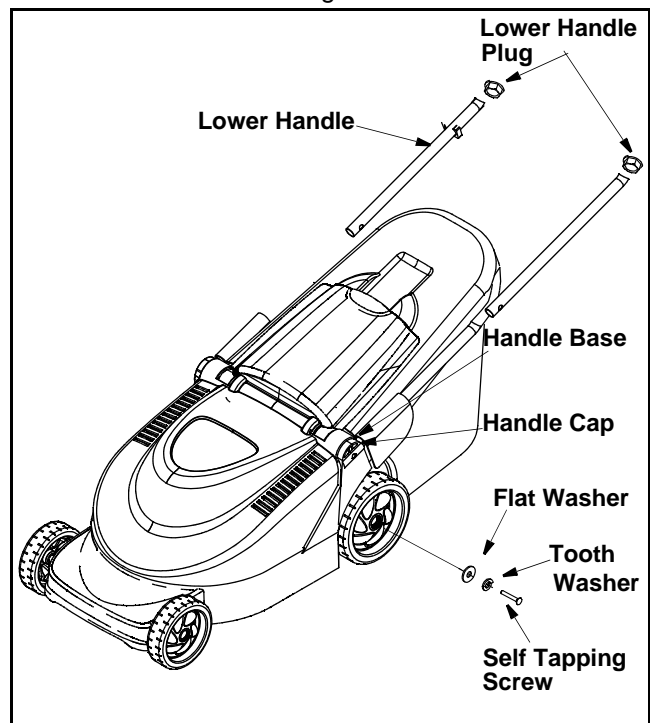

Figure 2
- Using one of the two longer self tapping screws from the hardware pack, insert the screw through the tooth washer, flat washer, and the handle cap as shown in Figure 2.
- Once both lower handles are installed, insert the lower handle plugs into the upper ends of the lower handles as shown in Figure 2.